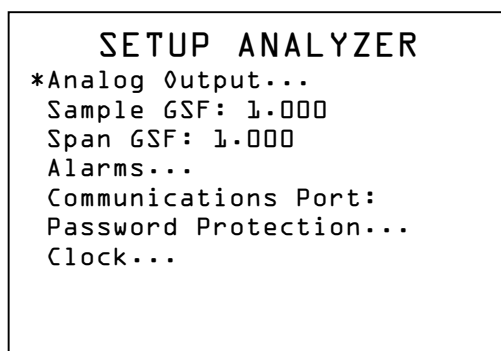
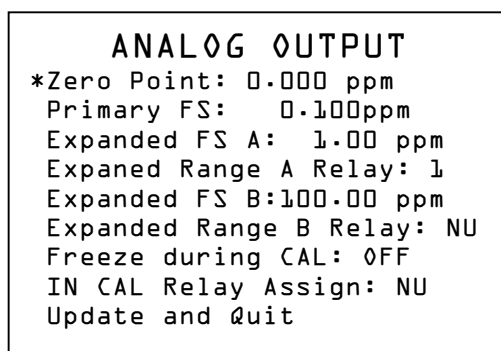

Figure 41: Setup Analyzer Menu
Figure 42: Analog Outputs Screen
The Setup Analyzer Menu is used to set a variety of Analyzer parameters. Some of these parameters are set when initially configuring the analyzer. When this selection is made (and the appropriate password is entered if required), Figure 41 is displayed.
Each entry in Figure 41 leads to a submenu as shown in Figure 42. Select the desired submenu, by placing the asterisk next to it and then press . A new display is shown as indicated below.
The Analog Outputs Screen is shown in Figure 42.
Both analog output ranges can be selected from Figure 42. The range of the Primary Full Scale (FS) must be less than that of the Expanded Full Scale (Expand FS). Both output ranges are available through pins A Out + and A Out – on the J10 connector on the rear of the analyzer. The analyzer auto-ranges between the two outputs depending on the current analyzer reading.
The optional **GSF** (Gas Scale Factor) is used to correct for changes in the rate of oxygen diffusion when background gases other than nitrogen are present in the span calibration gas. Enter the Sample GSF Menu through the Setup Analyzer Menu (Figure 41).